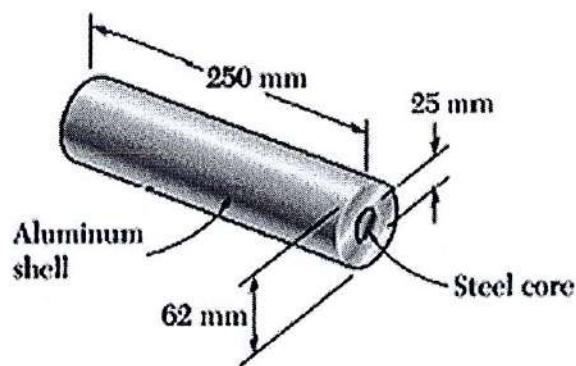

Figure 5c/ Rajah 5c
c) Compressive centric forces of 160 kN are applied at both ends of the assembly as shown as in **Figure 5c** by means of rigid plates. Given that modulus of elasticity of steel and aluminium are $E_{\text{steel}} = 200 \text{ GPa}$ and $E_{\text{aluminium}} = 70 \text{ GPa}$ respectively, determine: